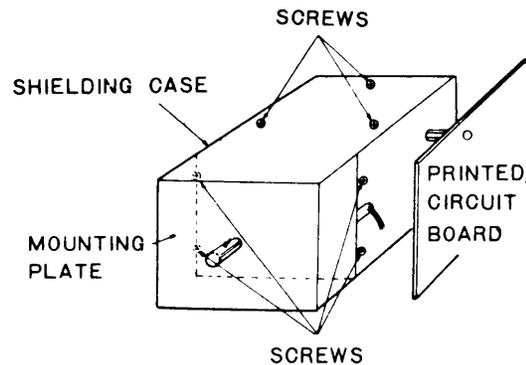

Fig. 12. Removing the shielding case.
3. REMOVAL OF SHIELDING CASE (See Fig. 12)